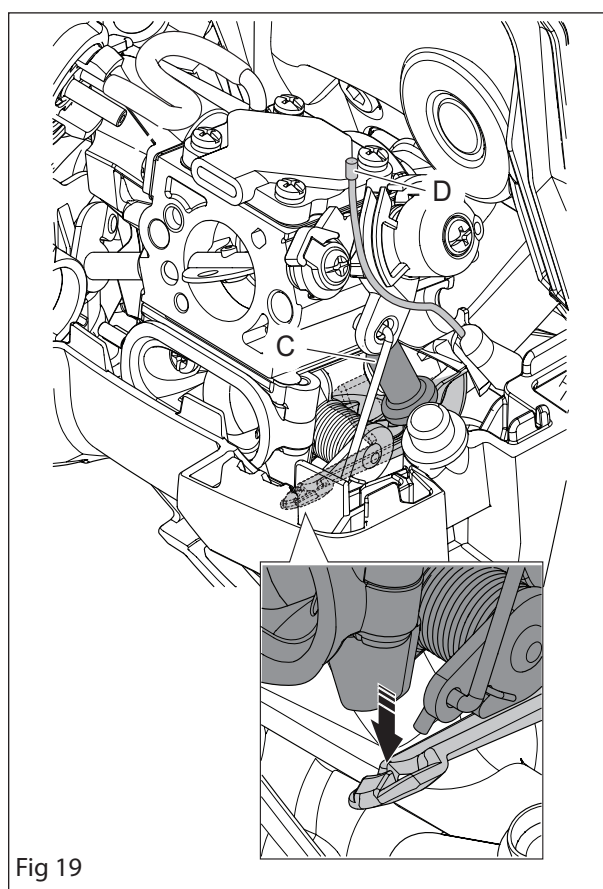

Fig 19
3. Press the fuel hose (C) in place in the collar on the intake bellows. See figure 19.
4. Hook on the throttle cable (D) in its mounting on the intake bellows. See figure 19.
5. Make sure the lug on the carburettor hooks in place on its mounting on the intake system. See figure 19.